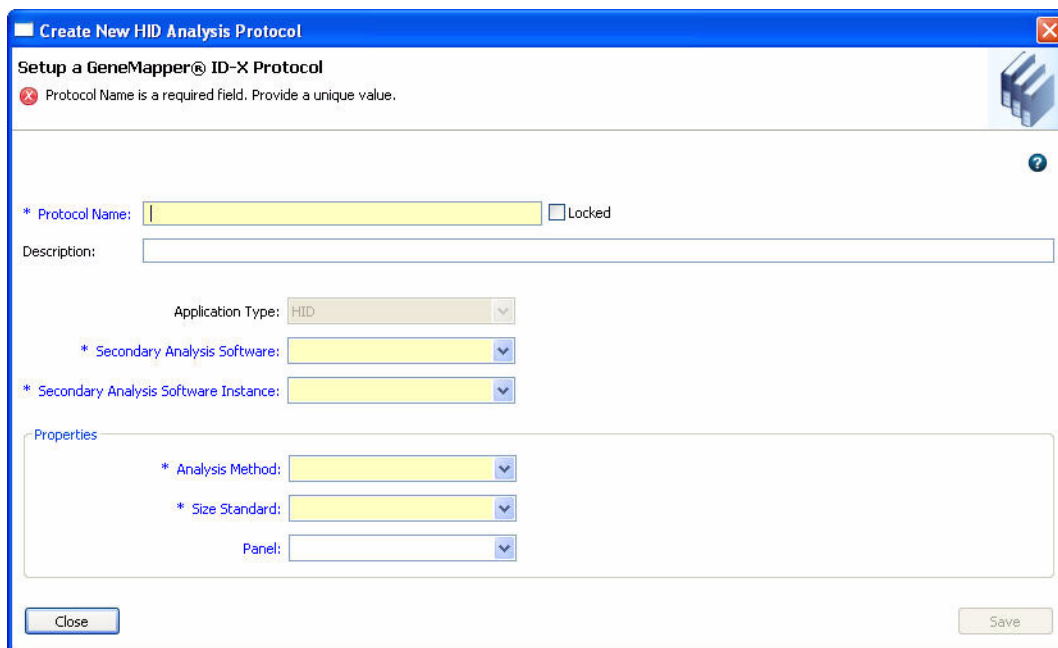

Figure 33 Create New HID Analysis Protocol
3. In the Create New HID Analysis Protocol dialog box (Figure 33 on page 196), specify settings (see Table 21 on page 196).